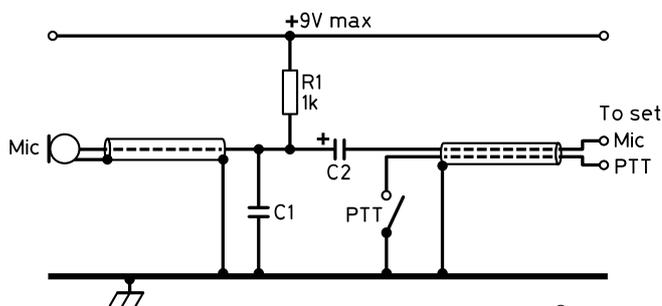

Fig 5: Wiring diagram for radios which use separate PTT lines.
PTT lines the circuit in **Fig 5** can be used. A suitable supply is needed for the microphone and this must not exceed 9 volts. This can be derived from a PP3 type battery or from the set. Some modern sets have a suitable supply voltage available on one of the microphone socket pins, (see the handbook for details)
- R1 (Fig 5) 1k Ω 0.25 Watt Carbon
- C1 (Fig 5) 0.1 μ F Ceramic Disc Capacitor
- C2 (Fig 5) 10 μ F Sub-miniature Electrolytic Capacitor